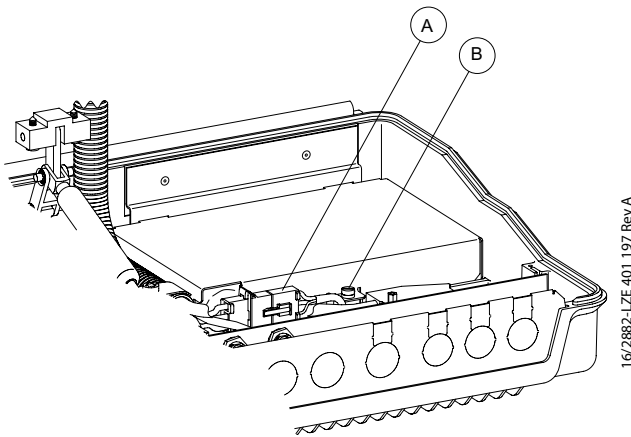

Figure 4 Removal of the FE Battery Unit (FBU)
4. Disconnect the power supply cable from the FE Battery Unit (FBU) by pressing the snap-in and at the same time pulling out the cable connector, refer to “A” in Figure 4.
5. Unscrew the slot-headed screw holding the FBU to the FE Case Bottom Frame (FBF), refer to “B” in Figure 4.